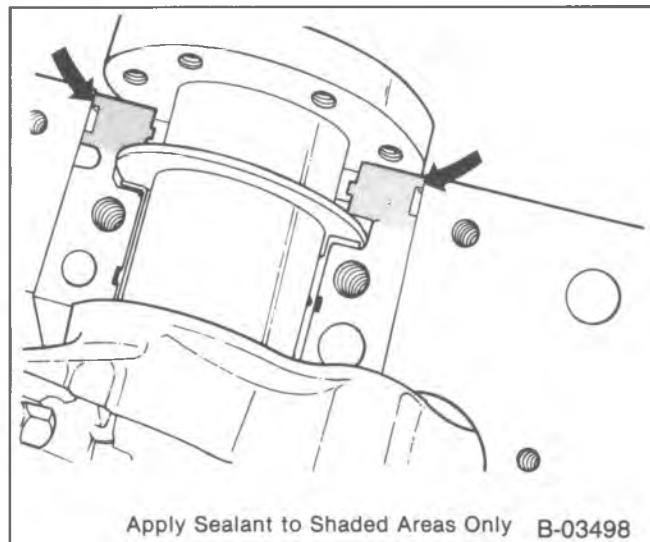

Figure 49—Applying Sealant to the Block
- 4. Rear main bearing cap (137).
- Apply a brush-on type oil sealing compound to the mating surface of the block and cap (figure 49). Do not allow any sealant on either crankshaft or rear oil seal.
- 5. Bolts (138).